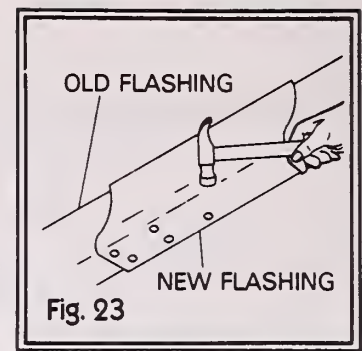

Fig. 23
4. Place the 6-inch side of the new piece of flashing over the roof portion of the existing flashing and nail it into place using roofing nails (fig. 23). Cover the nailheads with asphalt roofing cement. Also, seal the ends of the new flashing with asphalt cement.